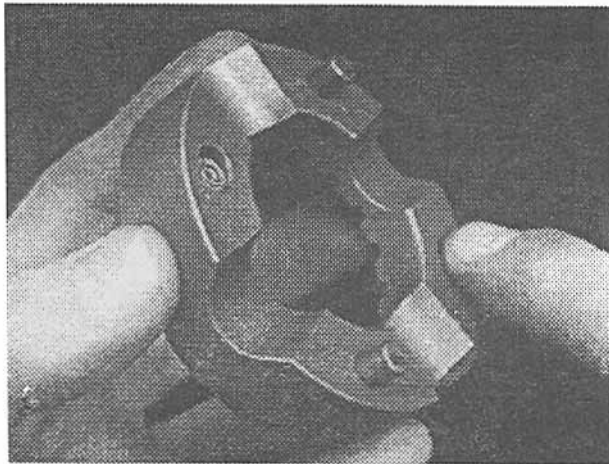

Figure 7
Coat the teeth of the drivers and both sides of the thrust washers with medium grease. Also place a little grease in each of the two window holes in each driver (**Figure 7**). The grease will help hold things in place and assist with functioning until the gear oil circulates.
5. **Place a spring assembly into each hole** in the other driver. Place a little more grease on top of the springs to help hold them in place (see **Figure 7**).